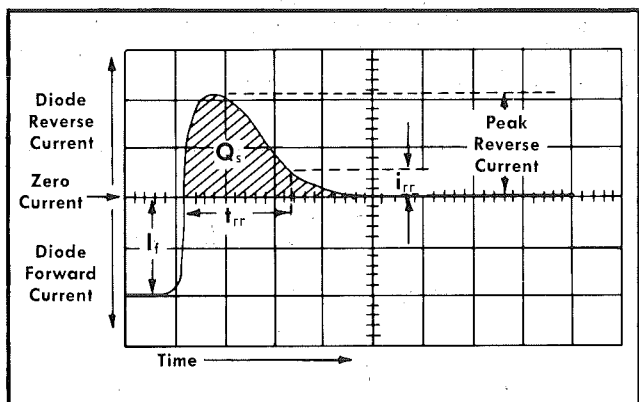

Fig. 2-30. Diode reverse recovery switching display.
Stored Charge (Q_s)—Amount of charge stored by the diode, and recovered during reverse recovery. Represented by shaded area in Fig. 2-30, and usually stated in coulombs.
8. Turn the pulse generator on, and set the oscilloscope triggering controls for a display similar to that shown in Fig. 2-30. Use this display to measure the reverse-recovery switching characteristics of diodes whose V_r (then E_{gen}) is known. Proceed to step 9 if the peak reverse current is known.